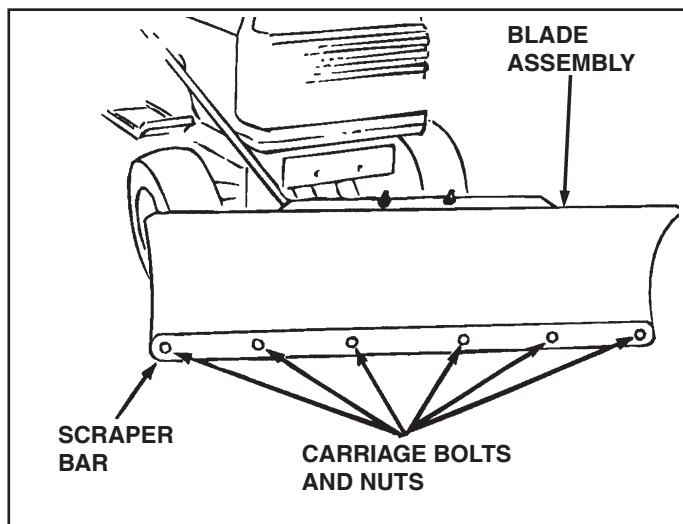

FIGURE 36
- During the operating season, check the scraper and shoes for wear before each use. After extensive use and wear, the scraper bar may be reversed to utilize the unused top edge. See figure 36.